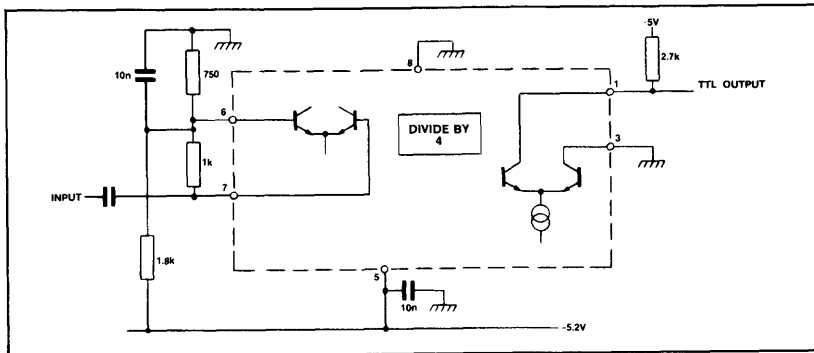

Fig.6 Typical application showing interfacing
1. The signal source can be capacitively coupled to the clock input if input bias is provided (See Fig. 6) but is normally directly coupled with ECL II levels. The inputs can be operated either singly or with double complementary input drive.